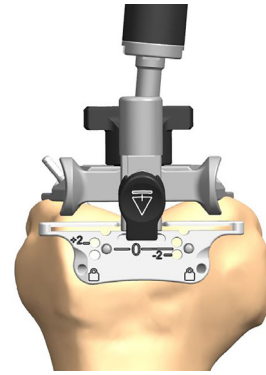

Figure 64
1. Using non-headed 65mm pins, pin the distal femoral cutting block to the anterior femur using the holes marked '0'. Once adequate distal femoral resection is noted, a headed or non-headed 65mm pin should be placed in one or both oblique pin holes for additional stability (Figure 64).